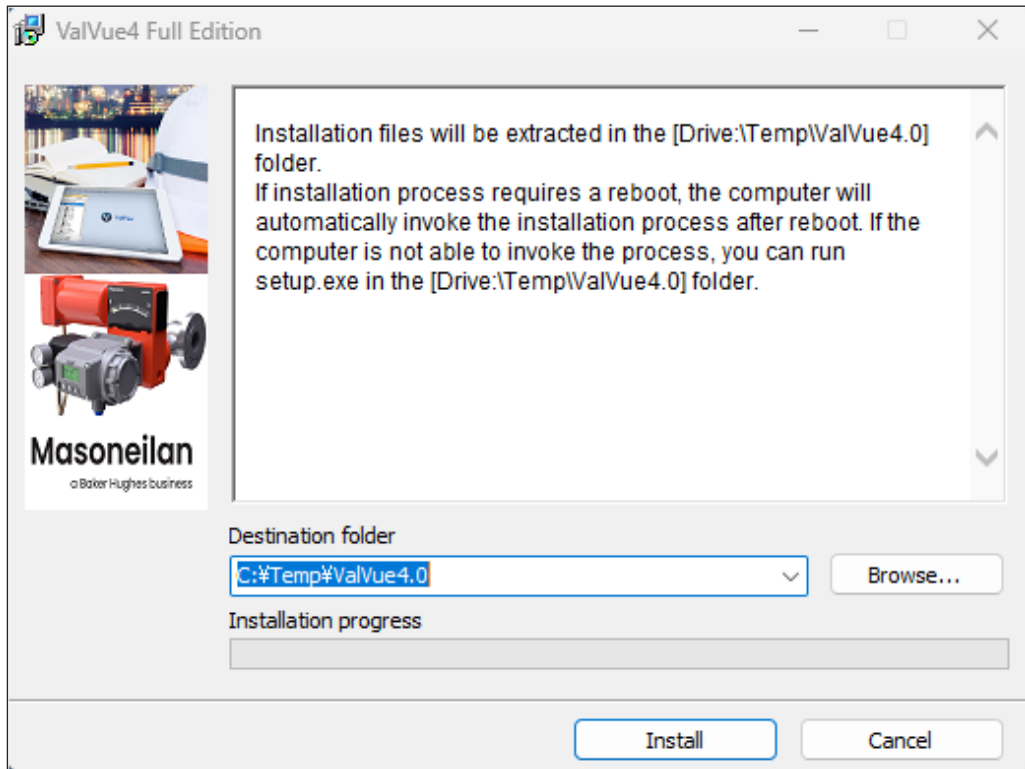

Figure 2 - Install Unzip
1. Double-click **ValVue 4 Full Edition.exe** and Figure 2 appears.